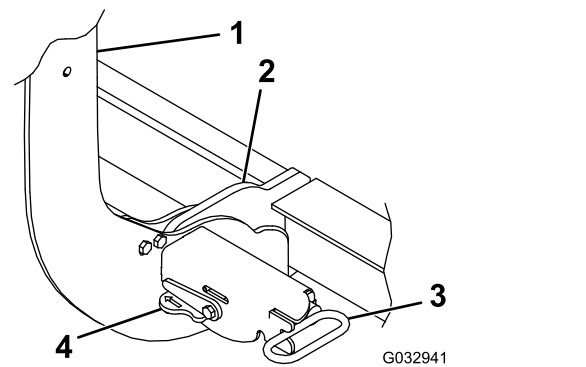

Figure 27
3. Turn the levers on the couplers to the ON position (Figure 27).
6. Ensure that both coupler spring pins have fully engaged the coupler (Figure 27).